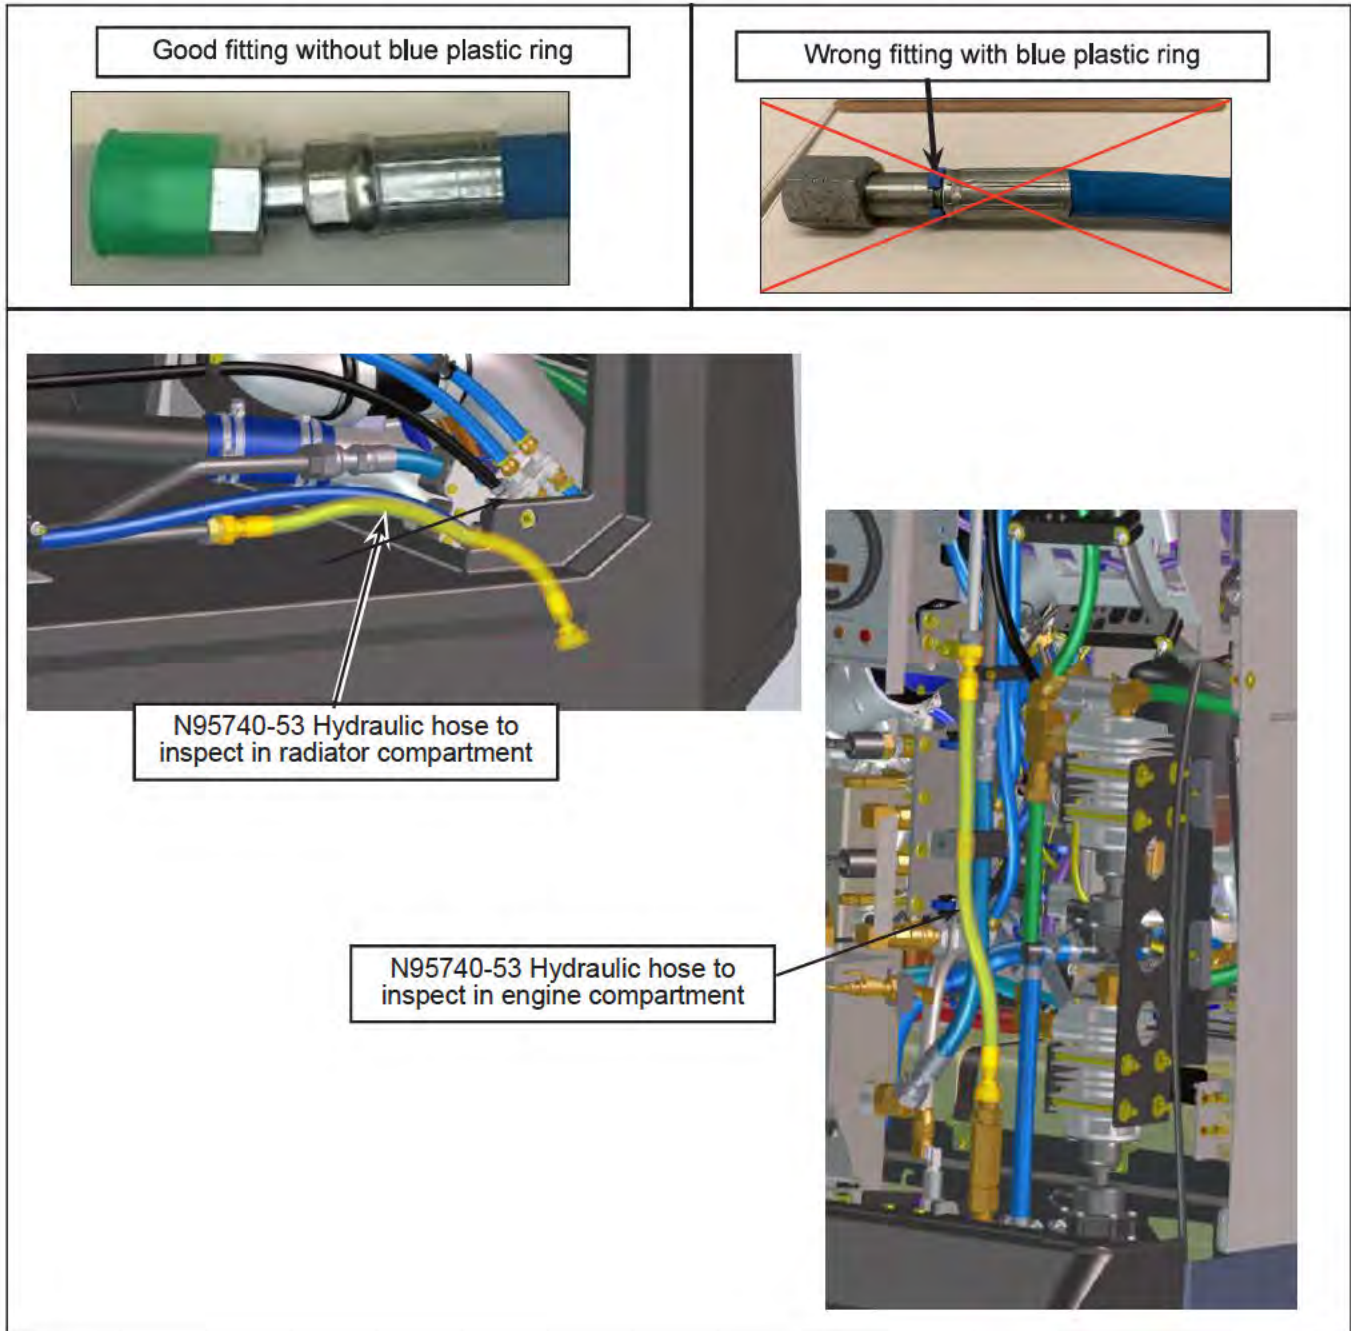

Figure 2 - N95740-53 Hydraulic Hoses Fitting and Position in Engine Compartment
- a. If a blue plastic ring is on one of the hoses fitting replace the hose according to level 2 procedure. See Figure 2.